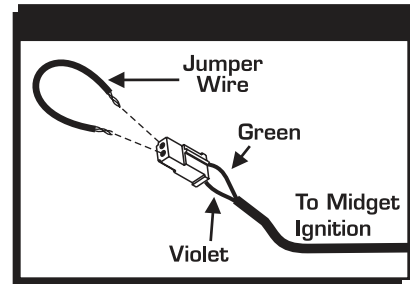

Figure 7 False Triggering Channel
5. With a small jumper wire, short the Violet wire to the Green wire (Pickup Channel 1), then pull them apart (Figure 7). This will cause a spark to jump from the plug wires to ground. If spark is present, the ignition is working properly. Do the same test using the Light Blue and Light Green trigger wires (Channel 2). If there is no spark proceed to step 6: